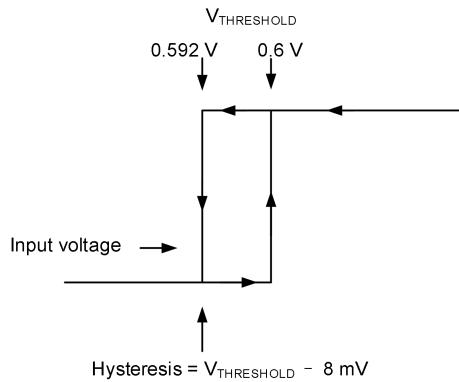

Figure 6. Comparator hysteresis
- (1) Hysteresis refers to the threshold (the threshold specification applies to a rising edge of a noninverting input) of a falling edge on the noninverting input of the comparator; see Figure 6.
- (2) Guaranteed by design.
- (3) VID refers to the differential voltage at the comparator inputs.
- (4) Pulling the open-drain output to the range of 3 V to 40 V is permissible, regardless of VS.
- (5) The RESET input has an internal 2 MΩ (typical) pulldown. Leaving RESET open results in a low state, with transparent comparator operation.
- (6) Specifications subject to change without notice.